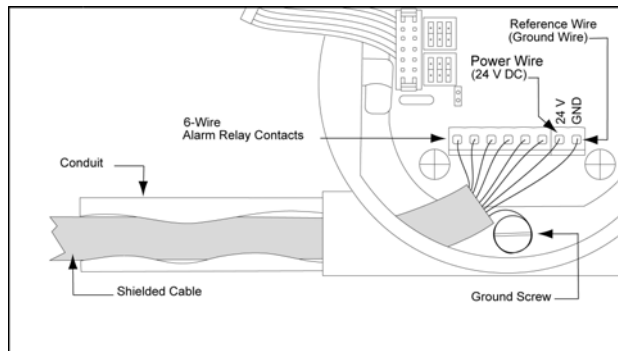

Figure 10. Power, Ground, and Relay Wiring
3. Attach conduit and pull all cables into the base enclosure. Cable signal designations are marked on the main and radio circuit boards. Refer to figure 10.
BW recommends that a third drain wire be attached to the grounding screw inside the base station, and to a reliable earth ground on the power supply that is connected to the base station. Refer to Figure 10.